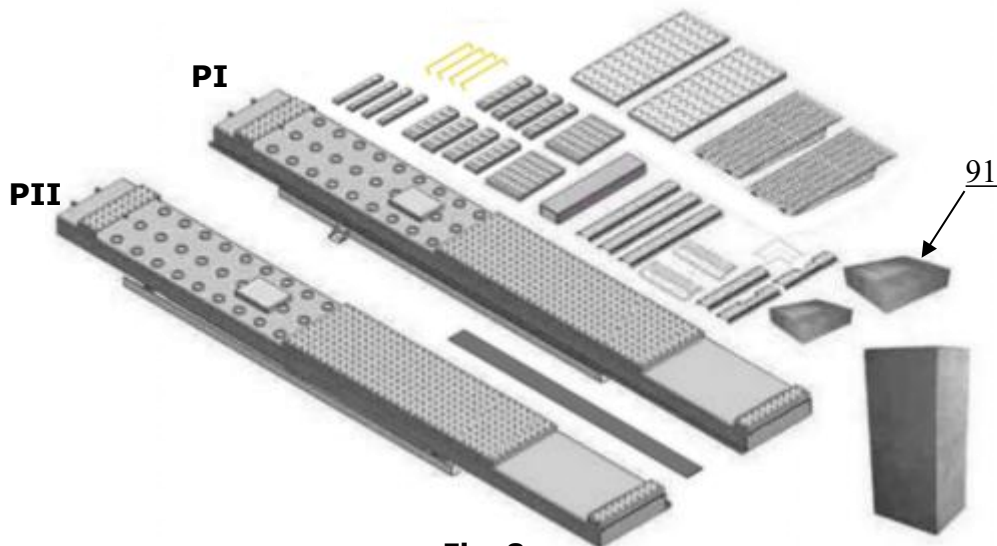

Fig. 8
- 2.1 Parts for on surface installation (See Fig.8)